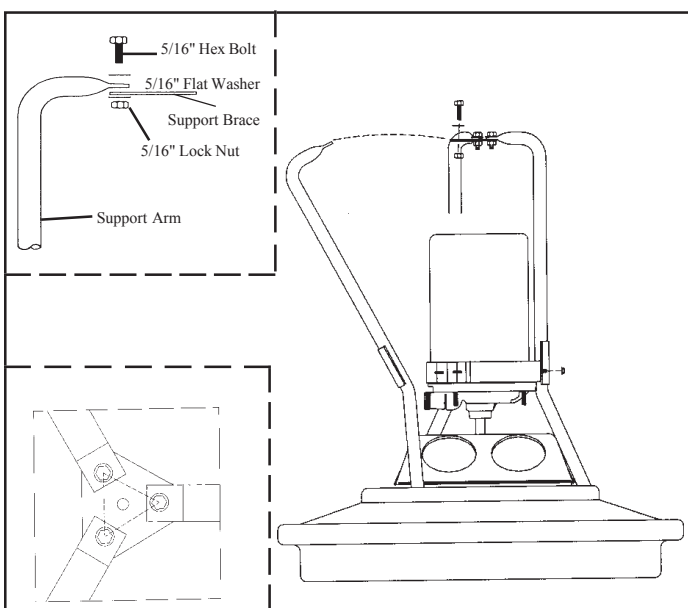

Figure 8
B. Attaching support arms - see Figure 8.
1. Insert the top of the adjustable support arms into one of the pockets of the float. Repeat for the (2) standard arms.
4. Apply (2) 1/4" flange nuts to each of the support arms and "snug" down the nuts to hold the arms to the brass ring. (Do not over tighten, adjustment may be required later.)
5. Attach the bottom of the support arms to the support arm brace with (1) 5/16" lock nut, (1) 5/16" flat washer, and (1) 5/16" hex bolt for each of the three arms.